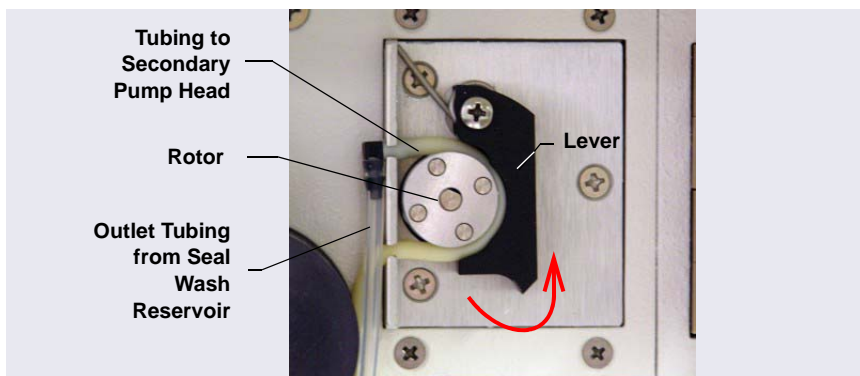

Figure 3-57. Peristaltic (Piston Seal Wash) Pump
4. Check that the tubing is engaged in the peristaltic pump (see Figure 3-57). If it is not, lift the lever on the peristaltic pump to the right, insert the tubing neatly between the lever and the rotor, and release the lever to secure the tubing.